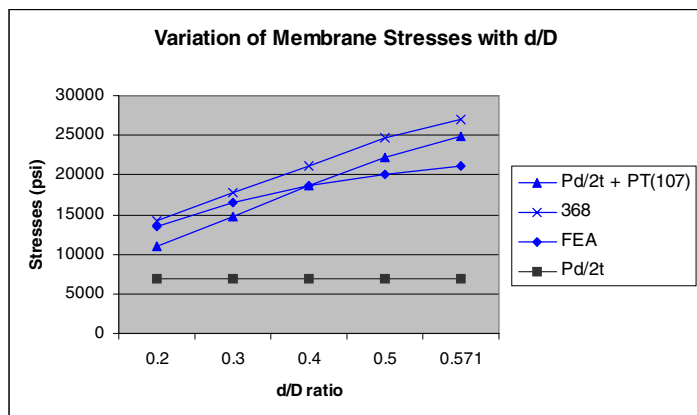

Figure 5
An important parameter in this evaluation is the d/D ratio (nozzle mean diameter/Vessel mean diameter). Therefore, to see its effect we varied the nozzle diameter from 14 to 40 inches, while keeping the rest of the geometry constant. The variation of the primary membrane stresses is shown in the Figure 5. The stresses from WRC 368 and from Pd/2t + PT(107) are close, the stresses from FEA taper off with the increasing d/D ratio.